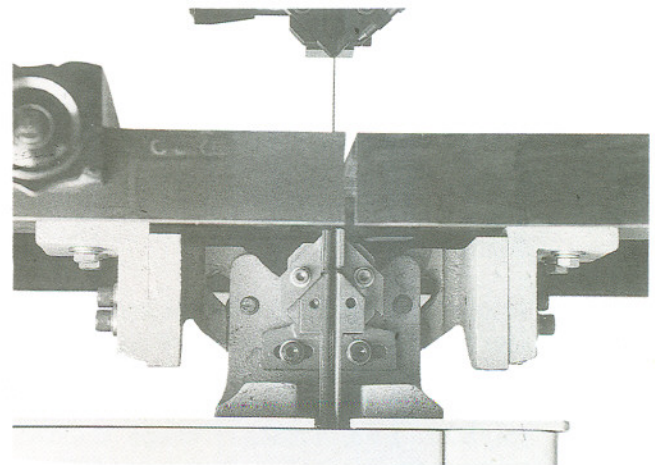

Figure 10
7. Adjust lower blade guide in the same manner. See Fig. 10.